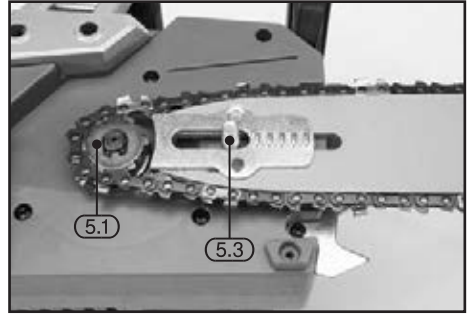

FIG.1
8.1 ATTACHING/ADJUSTING GUIDE BAR AND CHAIN - FIGS. 1 - 4